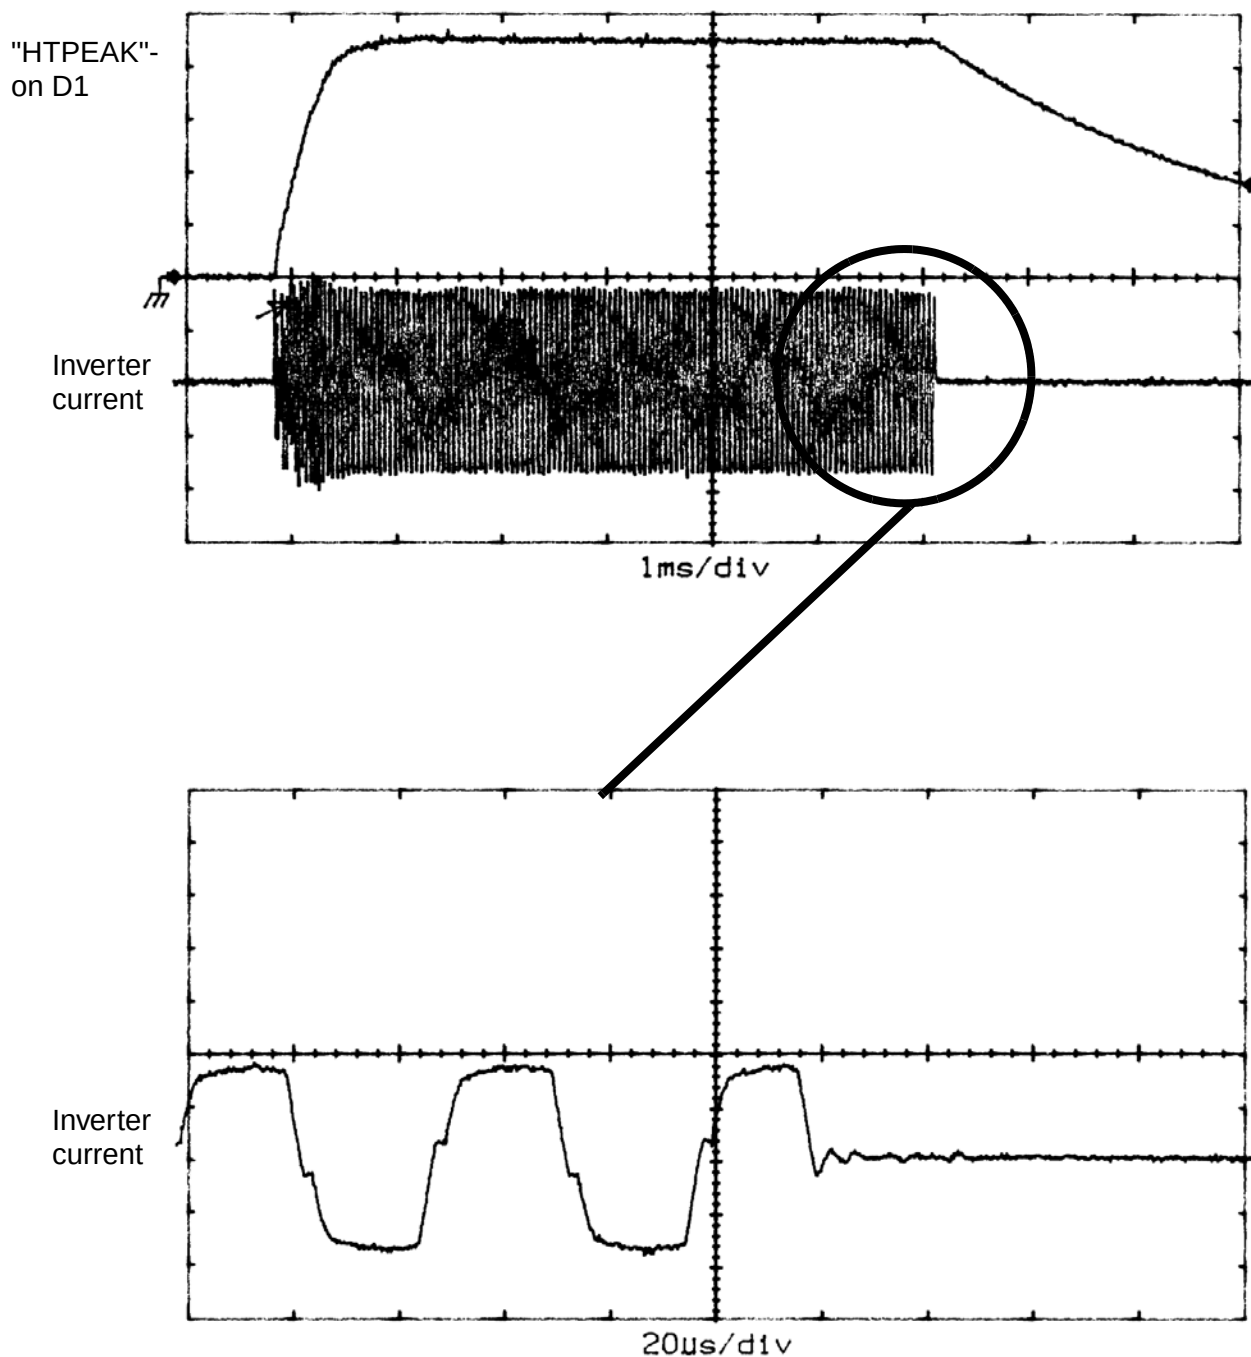

Fig. 1 "HTPEAK" and inverter current, inverter and single tank normal
- Measure the inverter current using an external current transformer and the HT. Compare with Fig. 1 "HTPEAK and inverter current, inverter and single tank normal".
- In case of an error, compare the oscillogram with Fig. 1 "HTPEAK and inverter current, inverter and single tank normal"